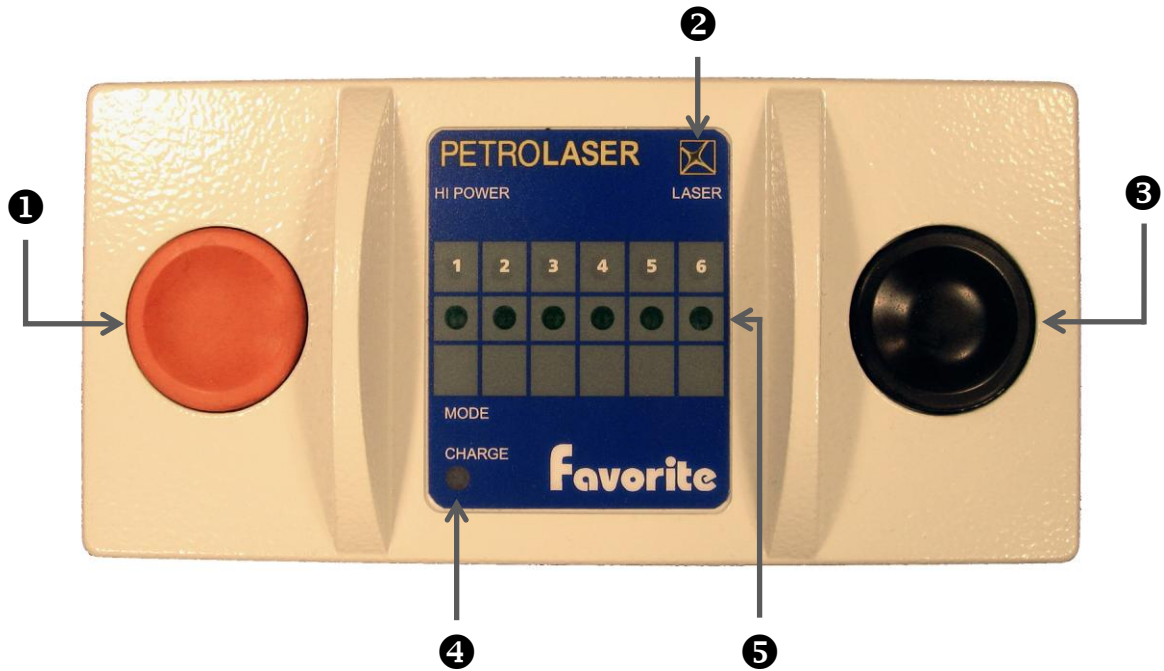

Figure 5. Front panel of the **Favorite** control unit.
5. Choose desired mode number from 1 to 6 (LED's ❺ in Figure 5) by consecutive pressing the "MODE" button ❸ (Figure 5).
7. Turn on the laser emission by pressing "START/STOP" button ❶ (Figure 5). Short beep sound and illuminated radiation indicator ❷ (Figure 5) inform operator that the laser head generates radiation. Countdown timer turns lasing off automatically when time of chosen mode (specified in Table 1) elapses. User can turn emission off at any moment by pressing "START/STOP" button again.